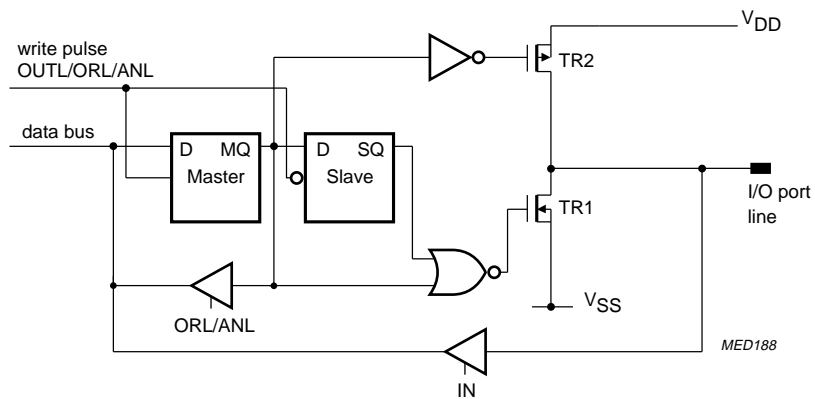

Fig.49 Push-pull output (Option 3).
- Option 2 Push-pull output; this is shown in Fig.49.